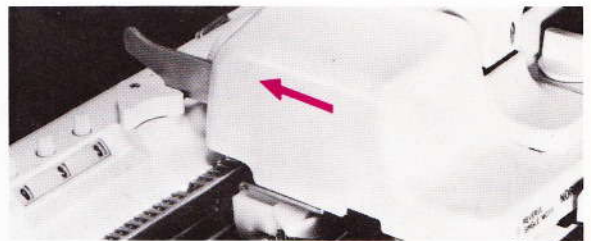

Fig. 17
- operates the row counter when pulled out (Fig. 17).